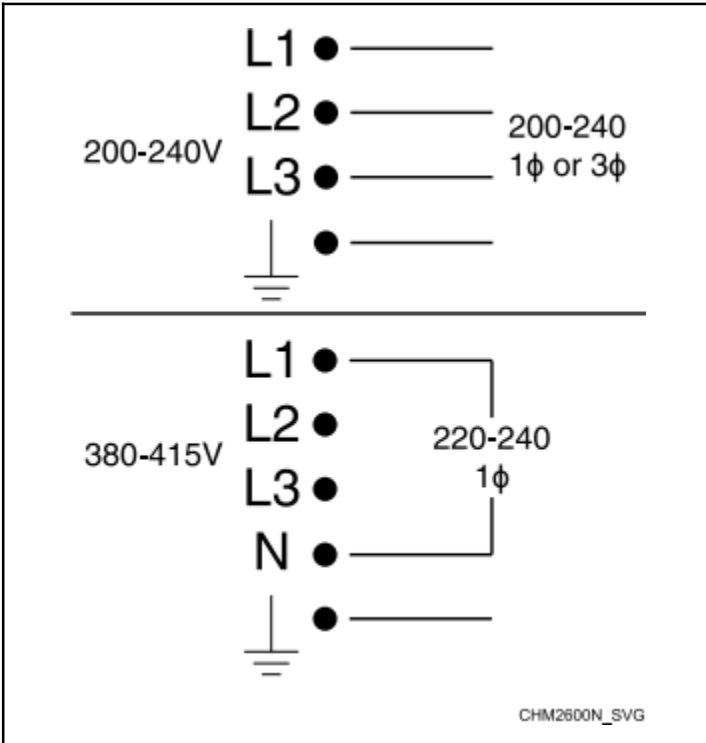

Figure 35
**IMPORTANT: For X voltage - To obtain 200-240V from a 200-240V source, connect L1 and L2. To obtain 220-240V from a 380-415V source, connect L1 and N. Refer to Figure 35 .**